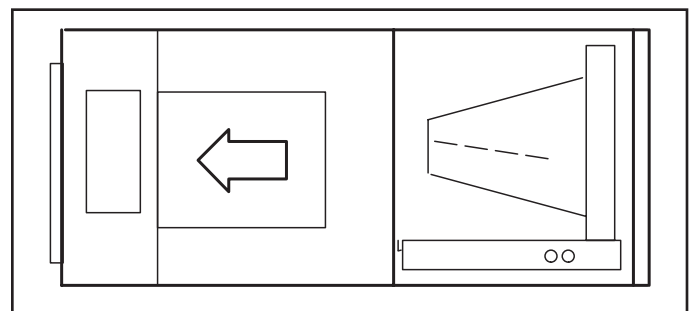

FIGURE 14. Left-Hand Discharge Configuration
- 8 - From the upflow position, flip cabinet 90° to the left and set into place. Replace blower assembly. See figure 14 for orientation.
- 4 - The horizontal configuration is shown in figure 14.